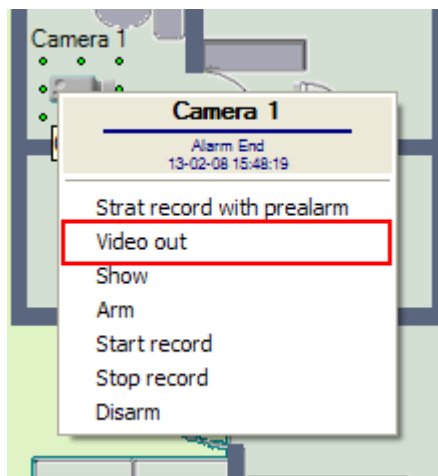

Fig. 4.9-1 Output of video image to the analog monitor (using the functional menu of the object on the map)
1. Press a command in the context menu of the object on the map. To do so, use the “Video out” box (“Video in”) in the context menu of the corresponding object on the map (see Fig. 4.9-1).